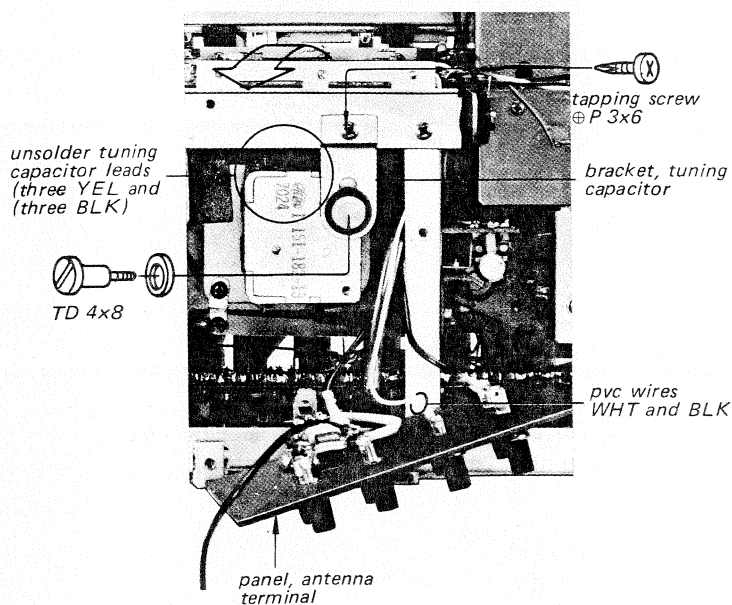

Fig. 2-15
2. Remove the two screws shown in Fig. 2-15.
7. Remove the circuit board in the direction shown by the arrow in Fig. 2-15.